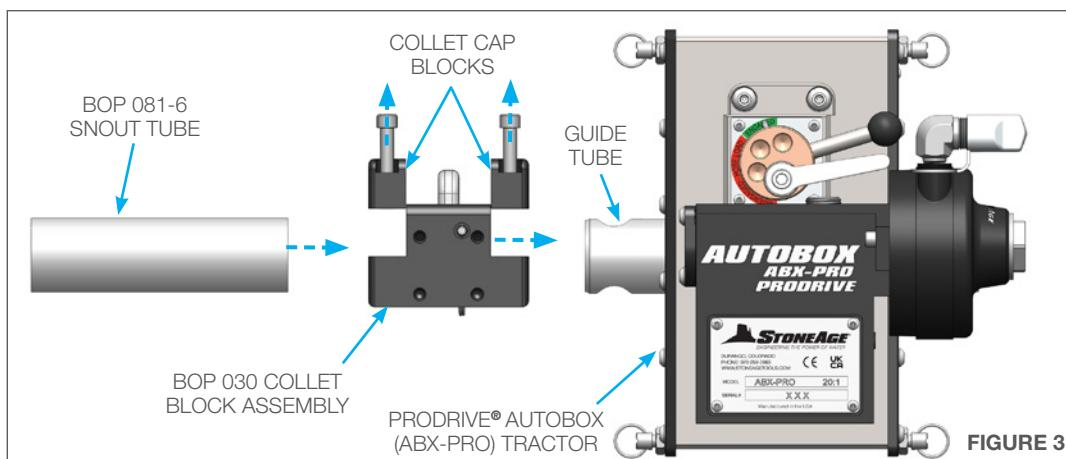

**FIGURE 1**
1. Attach the 4"-8" Flange Mount Plate to the pipe flange using the fasteners that were removed from the flange joint. The nuts shown between the flange and the Flange Mount Plate are to allow for drainage. Other spacer options are acceptable. (**Figure 1**)